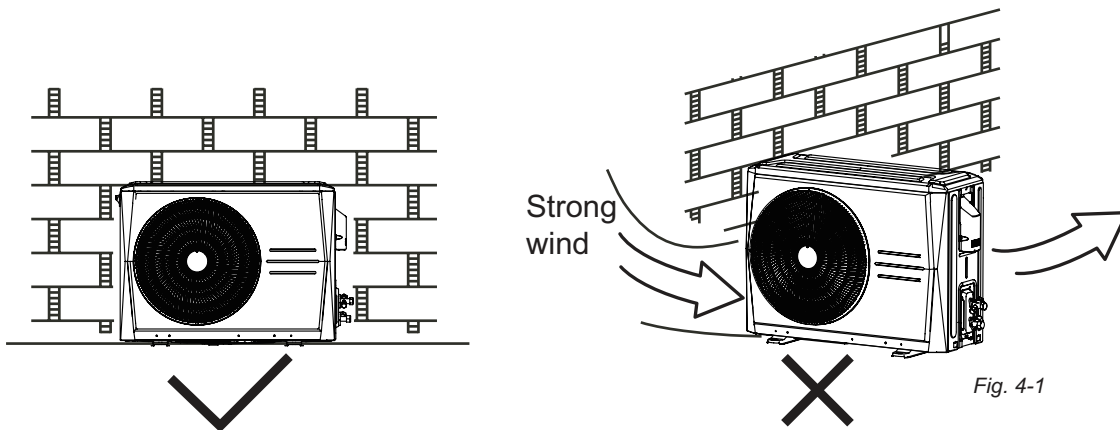

Fig. 4-1
- When installing in the place that near to the sea and high place where strong wind blows, install the unit against a wall or use a baffle when necessary to ensure the unit could run normally, see Fig 4-1. Especially in the place with strong wind, pay attention not to let strong wind blow back to the unit.